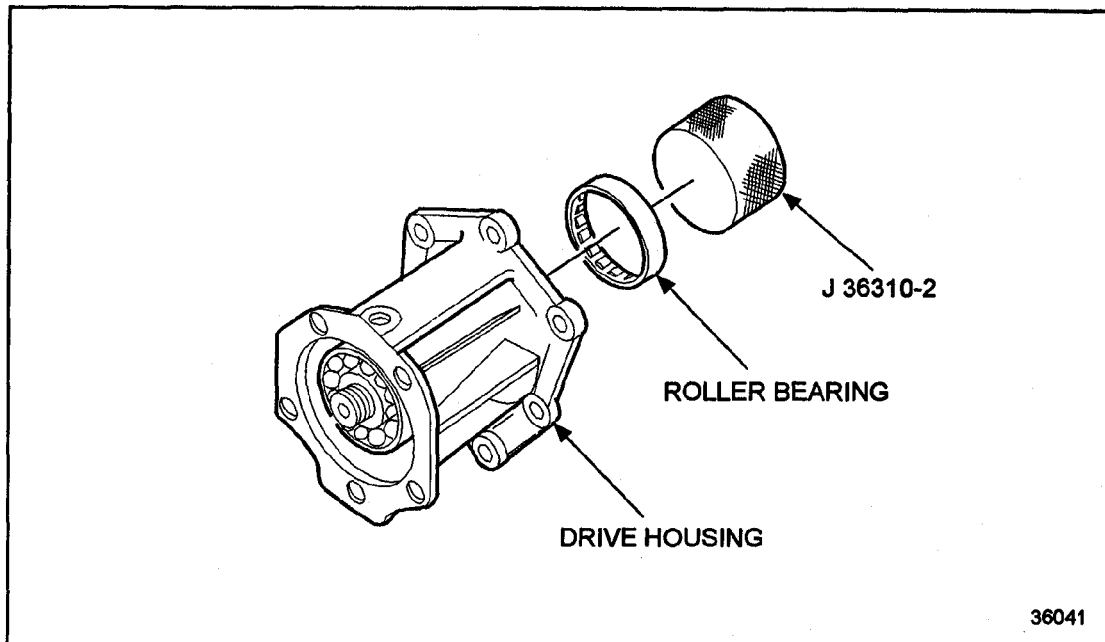

Figure 10-26 Roller Bearing Installation
3. Install the roller bearing in the air compressor drive housing using J 36310-2, part of J 36310-A . Ensure that the bearing is fully seated in the housing far enough for the snap ring to be installed. See Figure 10-26.